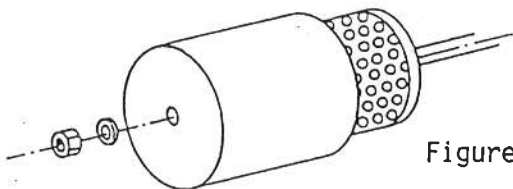

Figure 11
- Opening the filter housing (Figure 11): Dismount the hexagon nut on the cover of the filter housing and pull out the cartridge.